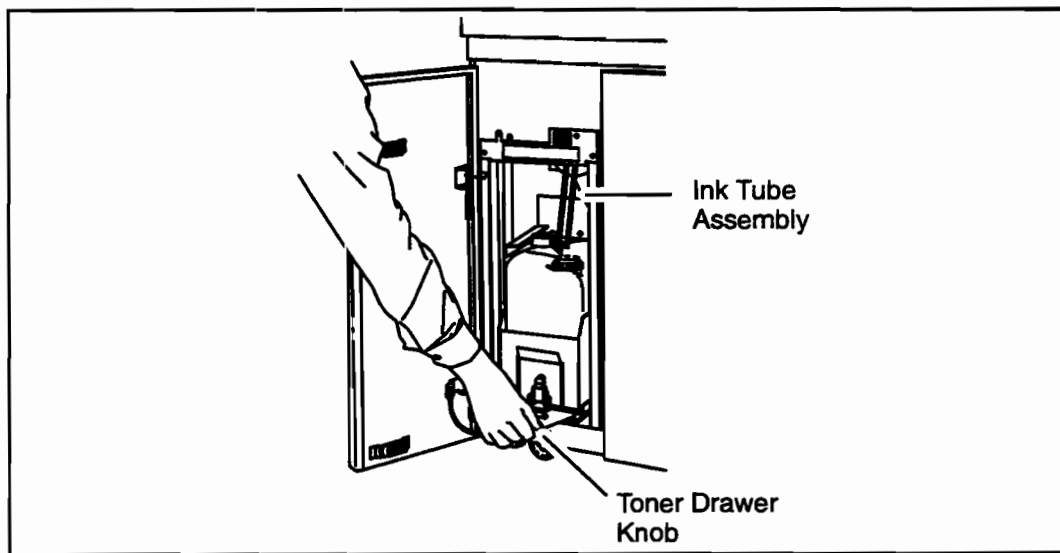

Figure 3-34. Toner Bottle Compartment
3. Unscrew the toner bottle cap securing the ink tube assembly and raise the assembly. See Figure 3-34.
5. Unscrew the toner drawer knob on the toner drawer. See Figure 3-34.